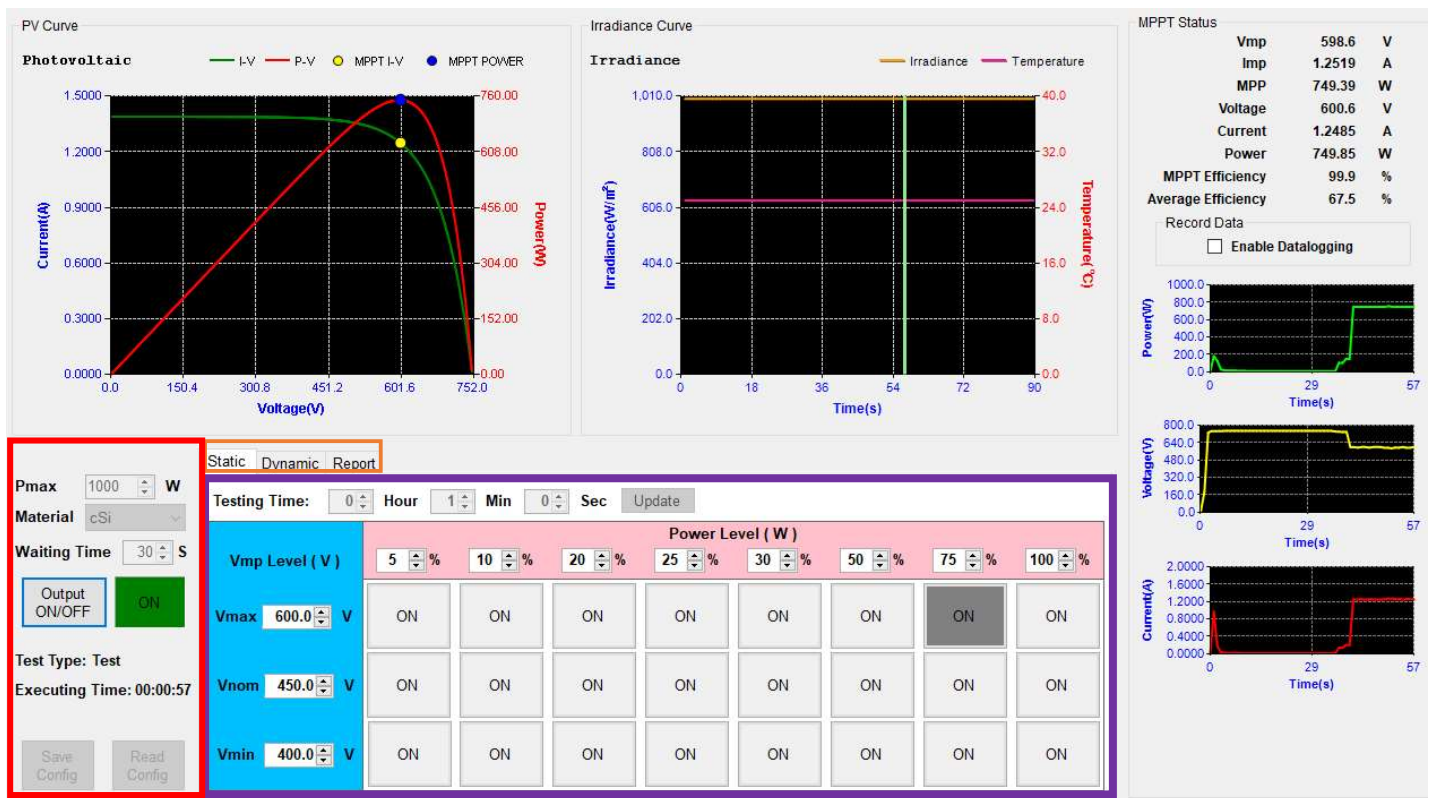

Figure 17- Static simulation
- The **regulation** option from the drop down toolbar menu in the SAS software dashboard should be chosen. This is shown in Figure 17.
The static option lets the user change their desired power level percentage and the V_{mp} values any time during simulation (Figure 17). Changing the parameters allows the user to see the changes graphically as the MPP point fluctuates. The measured values are displayed in the MPPT status box, showing current, voltage, and power over time in a plotted graph.
1. To create a static simulation, the inputs are provided by the user as shown in Figure 17.